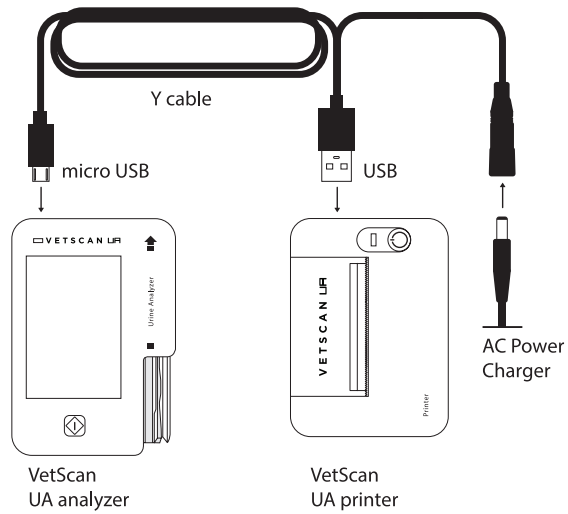

Fig. 5 Connect Y cable.
1. Connect Y cable to the UA analyzer, UA printer and AC power charger. (Fig. 5)